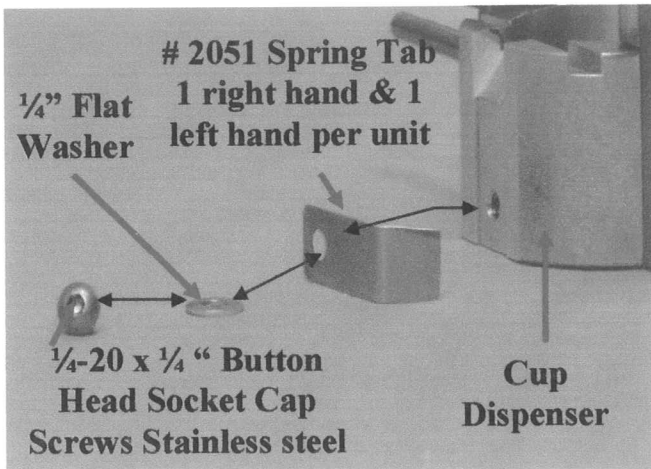

Fig. 8 - Removal of Spring Tab
6. If Spring Tabs are worn, remove from cup dispenser by removing one (1) button head socket cap screw and washer from each Spring Tab (see Fig. 8).
7. Position new Spring Tab (part #2051) to cup dispenser and attach with button head socket cap screw (see Fig. 8).